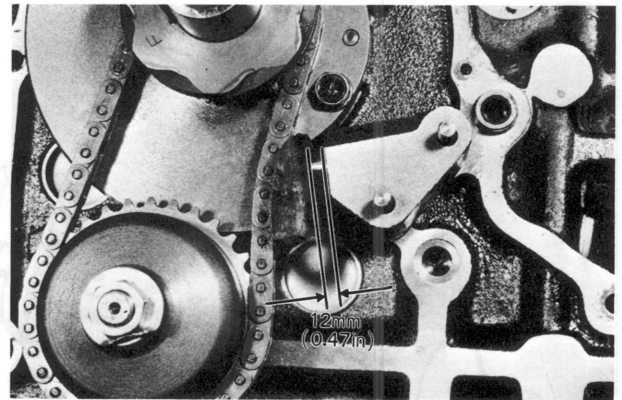

Fig. 2-10 Checking chain adjuster
1. Check the amount of protrusion of the chain adjuster, as shown in Fig. 2-10. If the protrusion exceeds 12 mm (0.47 in), replace the adjuster or chain.